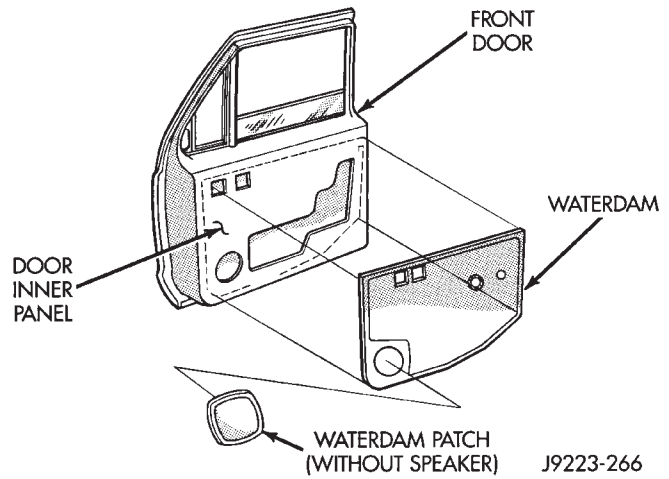

Fig. 23 Waterdam Installation
(1) If door waterdam was removed, apply sealant to the edges before installing (Fig. 23).
(2) Position the waterdam on door inner panel (Fig. 23).
(3) If removed, install the storage bin panel and speaker grille on the front door trim panel.
(4) If removed, install the ash receiver tray housing on the rear door trim panel.
(5) Position the trim panel on the door inner panel and press the retainers inward.
(6) Install the armrest and window glass regulator handle. Or (if equipped) the power window switches and bezel. Tighten the armrest screws to 4 N·m (34 in-lbs) torque.
(7) Connect the rods to the inside latch release handle and install the handle. Tighten the screws to 2 N·m (16 in-lbs) torque. For vehicles with power door locks/windows, connect the wire harness connector.